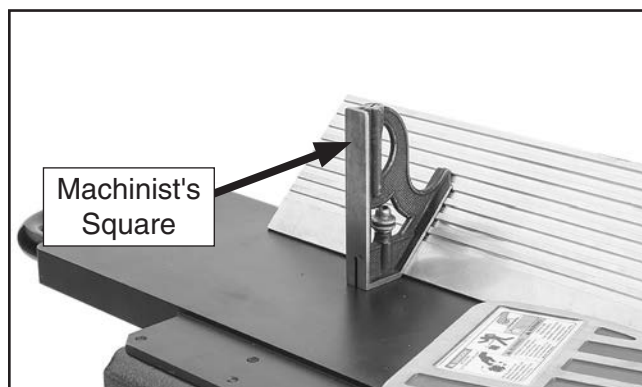

Figure 30. Checking 45° outward (135°) stop.
- Use a machinist's combination square to check fence angle, as shown in **Figure 30**.